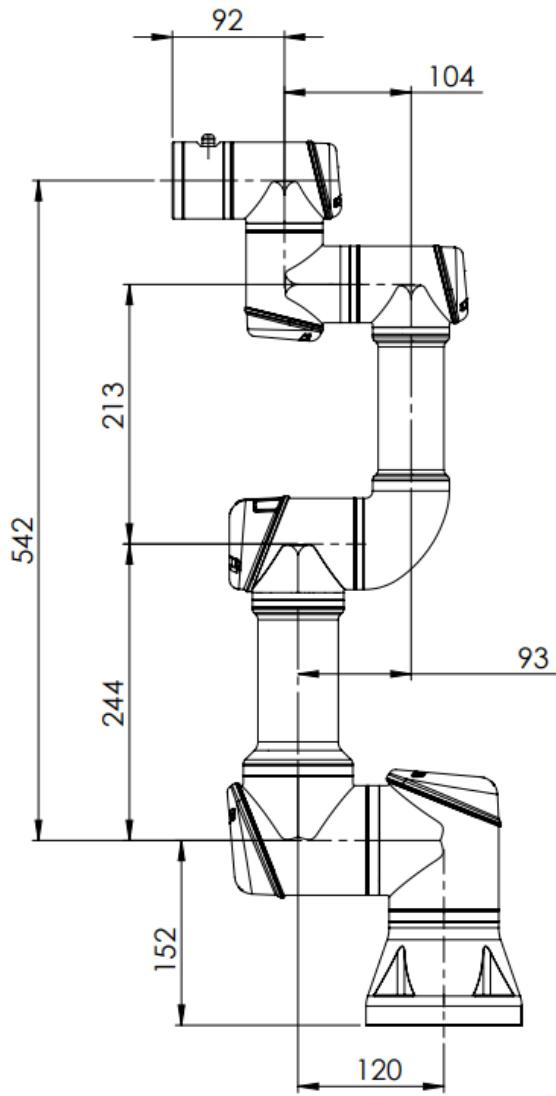

Figure 3.5: Approximate Dimensions of the UR3 in mm. *EACH UR3 IS SLIGHTLY DIFFERENT DUE TO ITS MANUFACTURE TOLERANCE.
- Figure 3.5 shows the dimensions of all of the links of the UR3.